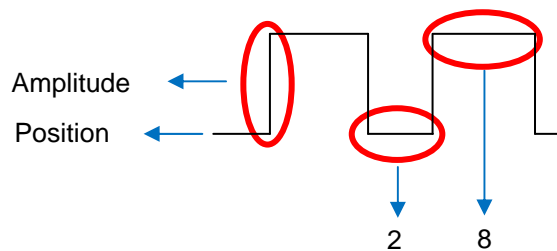

Figure 4-6 Square wave
- ❶ Users can type the name of the simulation created. They can type 50 characters at most.
- ❷ The parameters which can be set in the **Parameters** section vary with the option button selected in the **Type** section. The option buttons in the **Type** section are described below.
- **Square:** Users have to set a value in the **Position** box, a value in the **Amplitude** box, a value in the **Period** box, a value in the **Phase** box, and a value in the **Ratio** box. A square wave in the range of the value in the **Position** box to the value in the **Position** box plus the value in the **Amplitude** box is generated. The ratio of the time for which a position of the square wave generated lasts to the period of the square wave depends on the value in the **Ratio** box. In figure 4-6, the ratio of the time for which a position of the square wave lasts to the period of the square wave is 0.2.